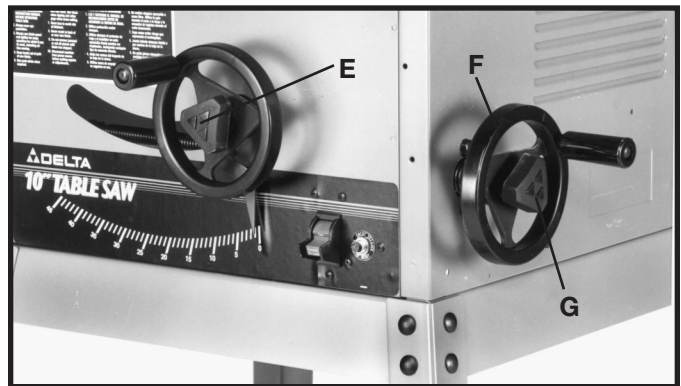

Fig. 8
2. Place a M10 flat washer onto the end of the raising shaft. Thread the lock knob (E) Fig. 8, onto the shaft.
3. Assemble the blade tilting handwheel (F) Fig. 8, to the blade tilting shaft in the same manner.
4. Thread the lock knob (G) Fig. 8, onto the blade tilting shaft.